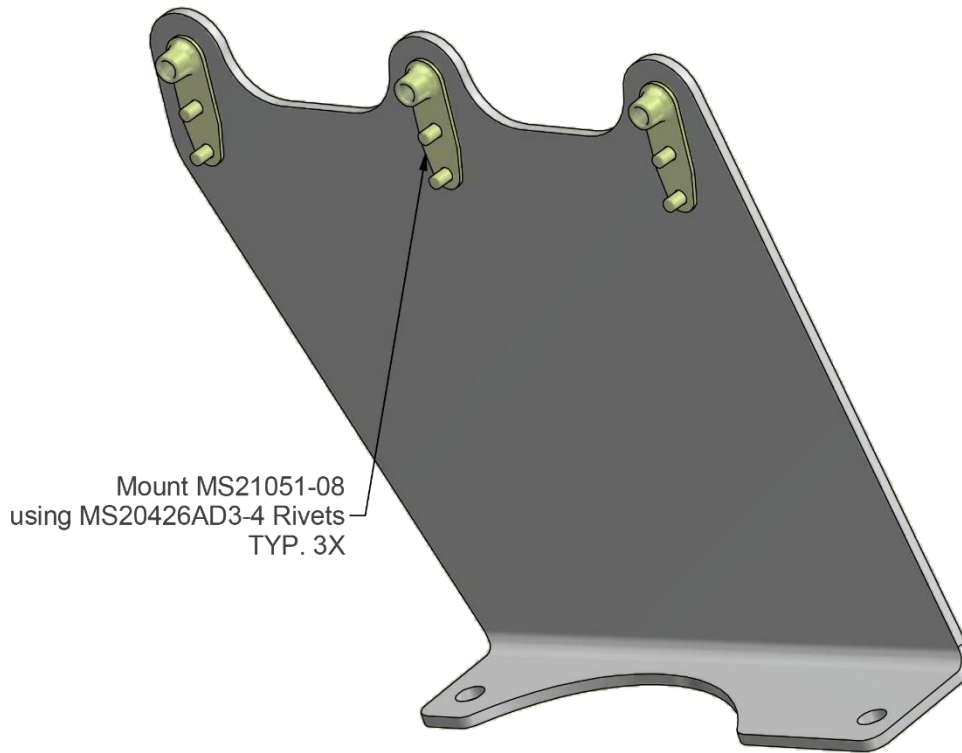

Figure 2-4
- 4.2. Rivet 3 ea. MS21051-08 anchor nuts in place using 6 ea. MS20426AD3-4 rivets as shown in figure 2-4.